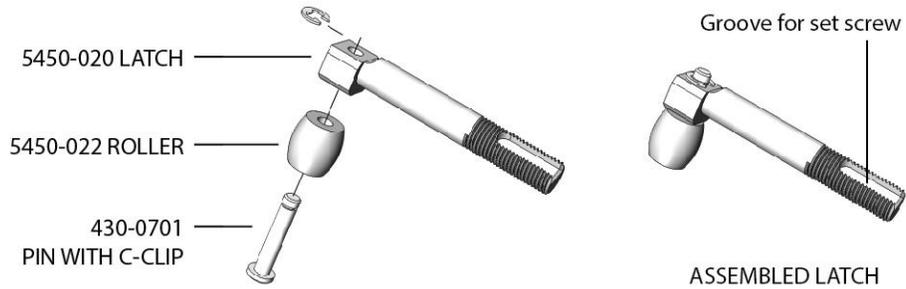

Figure 1
6. If not already assembled, assemble the latch as shown in figure 1. Remove the c-clip from the pin, place the pin through the roller then through the latch, then install the c-clip. Note that the roller must be installed on the correct side of the latch, as shown.